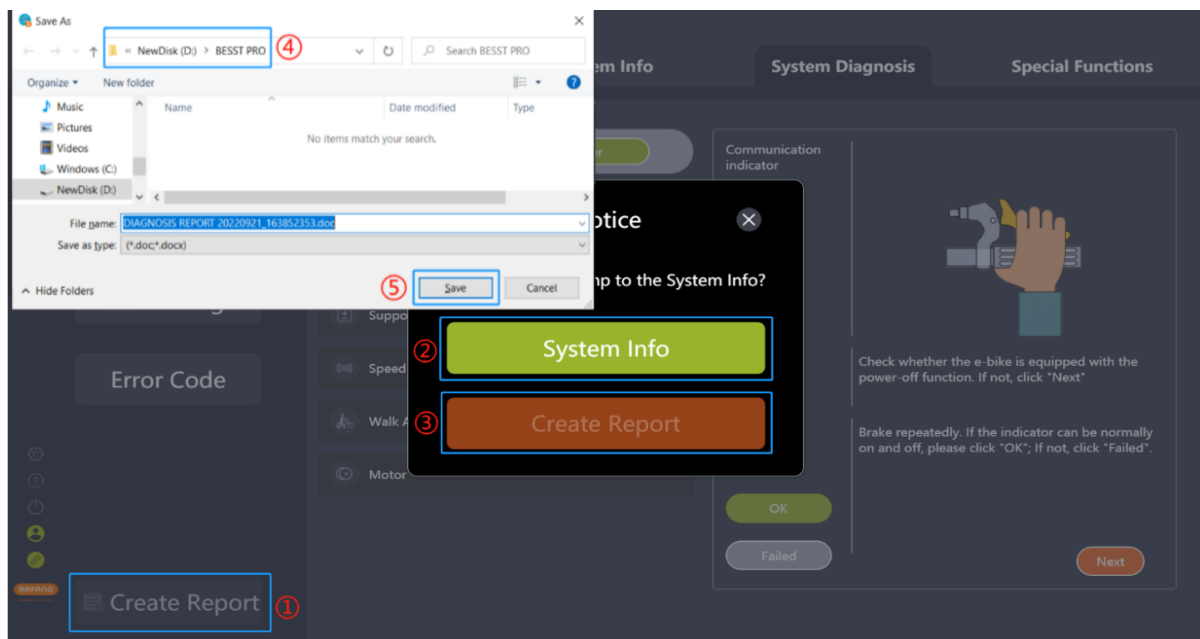

Fig. 6-6 System diagnostics interface reports creation
- (1) Click “Create Report”, and a pop-up window will prompt “Do you want to jump to System Diagnostics?” (Fig.6-6).
- (2) For system information reading, click the "System Info" icon to jump to the system diagnosis interface.
- (3) Click the “Create Report” icon.
- (4) Select the local save path.
- (5) Click the “Save” icon to generate a PDF report.